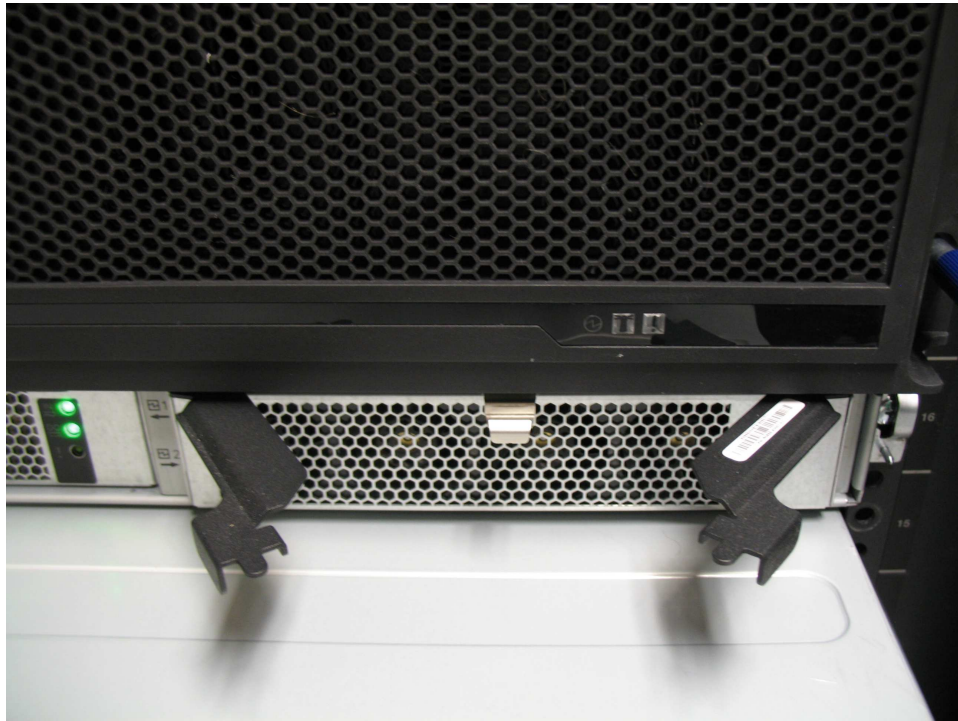

Figure 88. Releasing the power supply handles
Each PSU provides cooling to the lower part of the enclosure. Ensure that the second PSU in the enclosure is powered on and operating correctly. For example, in Figure 88 on page 96, PSU 1 is operating while PSU 2 is being removed.
4. Rotate the handles outward, as shown in Figure 88 on page 96.